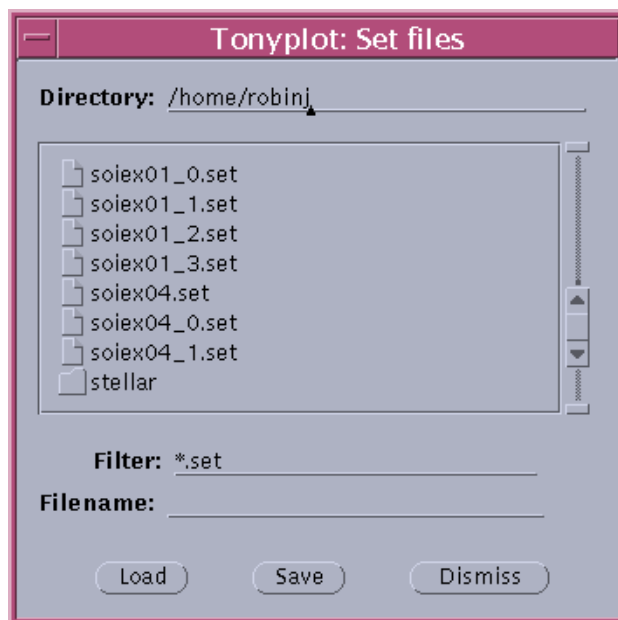

Figure 7-4: Set Files Popup
- **Set files:** **Set files** (Figure 7-4) are used to save the display settings of currently loaded plots. This popup allows set files to be both created and loaded. It is very similar in appearance and operation to the **Load Structure** popup, except there are no **Load** options, although there is a **Save** button. To create a set file, enter a name into the **File name:** text field, then click on the **Save** button. To load a setfile, use the same methods as described for the **Load Structure** popup. Double clicking also loads a set file. Refer to the Set Files section for a more detailed description.